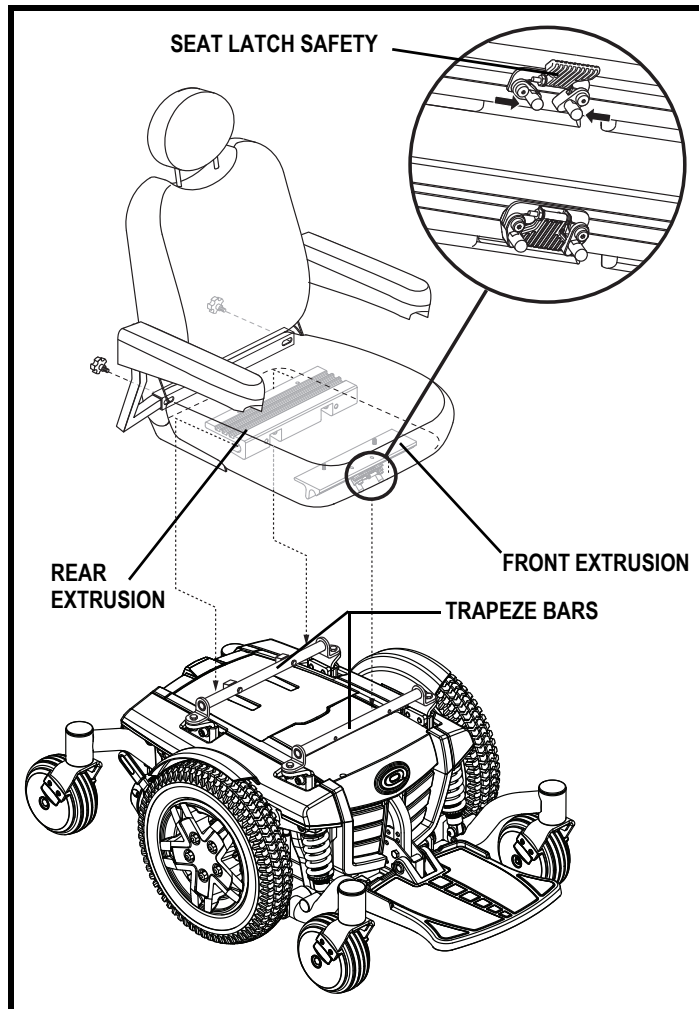

Figure 7. Universal Mounting System and Contour Seat—UMS
For unoccupied transit power chairs, contour seats are attached to the power base with the Universal Mounting System (UMS). The UMS consists of universal parts that may be attached to the seat, regardless of seat width or seat depth. The two main components are aluminum extrusions mounted to the seat base. These extrusions attach to a pair of trapeze bars that are mounted to the power base. See figure 7.
1. Tilt the seat back and slide the rear extrusion onto the rear trapeze bar. See figure 7.
4. Flip up the seat latch safety. See figure 7.